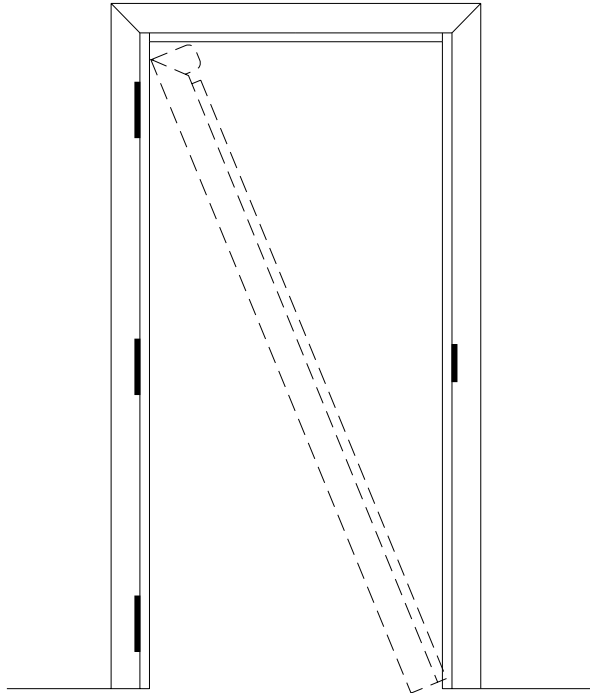

Figure 22 – Align corner gussets
1. Install jambs and header on to wall per manufacturer's instructions, taking care to align corner gussets (as occur). See figure 22.